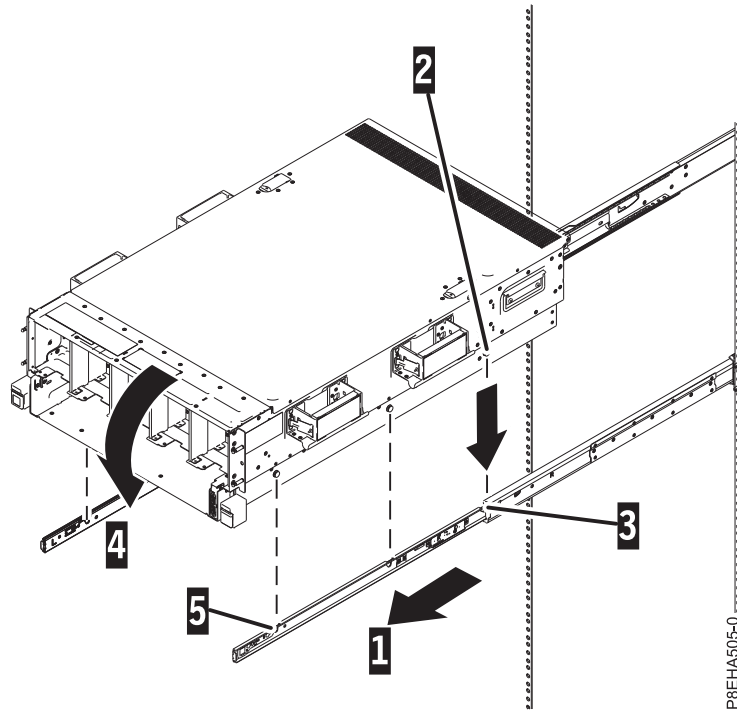

Figure 12. Installing the chassis onto the mounting hardware
1. Extend the mounting hardware (1) as shown in Figure 12 on page 12.
4. Tilt the front of system up so that the rear chassis pins (2) insert into the rear holes on the mounting hardware (3), as shown in as shown in Figure 12.
5. Tilt the front of the system down so that the chassis pins are inserted into the front (4 and 5) and middle holes in the mounting hardware, as shown in as shown in Figure 12.